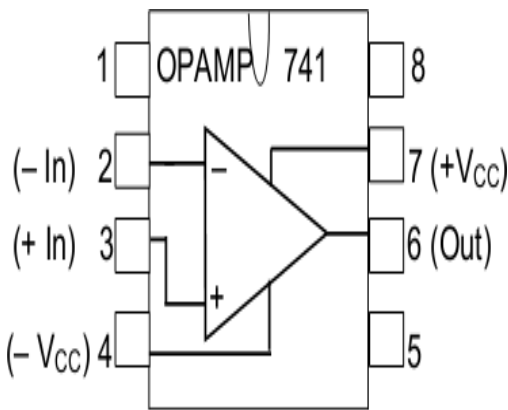

Fig. 1 Pin Connection of OPAMP 741
An OPAMP is an integrated circuit (IC) consisting of number of transistors and resistors inside the chip. The opamp we will use in this course is the extremely popular 741, which has the pin connection given in **Fig. 1**. (- In) and (+In) are two input terminals, (Out) is the output terminal and (+VCC) and (- VCC) indicate two power supply terminals where **equal and opposite d-c** voltages have to be connected to the opamp for its normal operation. The exact values of these voltages are flexible, but they must be equal in magnitude (range 6-15V) and opposite in sign.